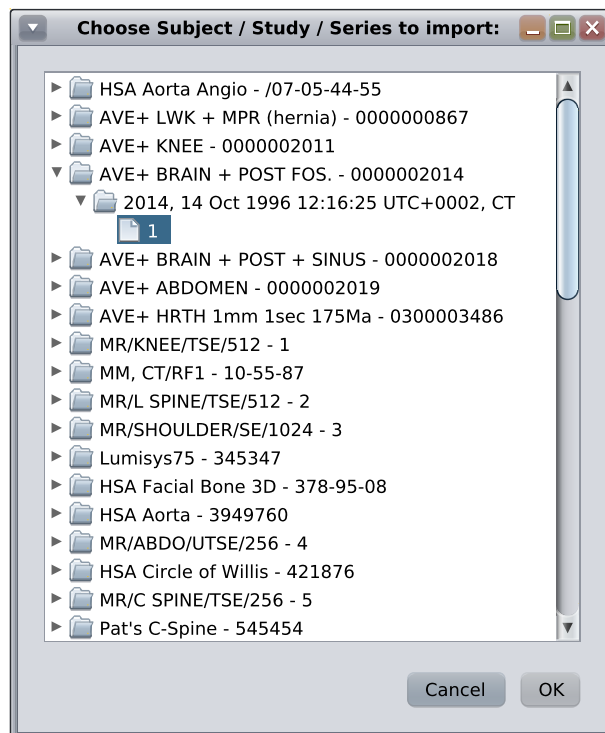

Figure 1.402: Choose a DICOM Series for Import
3. If more than one image series is included in the selected DICOM files, a Choose Subject / Study / Series to Import dialog opens (see [Figure 1.402 \[p 445\]](#)). In [Figure 1.402 \[p 445\]](#) the subjects of the CAR '97 DICOM Demonstration CD are shown. The dialog displays the DICOM hierarchy subject/study/series. Arbitrary nodes on every level can be selected. All image series of the selected items (e.g. subjects, studies, series) are imported after **OK** is clicked. For each DICOM series a new image series is created in ParaVision containing all imported images of the series. The corresponding subjects and studies are created from the imported DICOM information. If a DICOM file is imported several times a new series is created for each import operation.